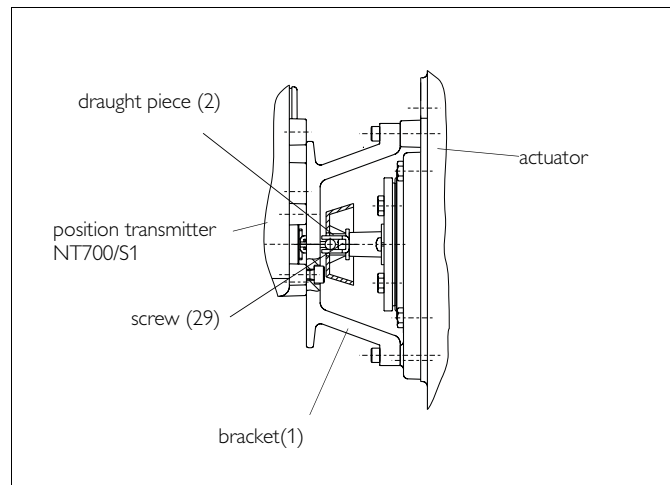

Fig. 4. Installing, S1
2. Install the pointer (only B_U) parallel with the valve closure member and fasten the draught piece (2) with a screw (29) to the pointer cover (B_U) or to the coupling (QP), as shown in Fig. 4. Secure the draught piece fastening screw with thread-locking compound (e.g. Loctite) and tighten it properly.
3. Fasten the mounting bracket (1) to the position transmitter.
4. Fasten the mounting bracket (1) to the actuator. The mechanical coupling (223) of the position transmitter must be positioned in the draught piece (2) as shown in Fig. 4.